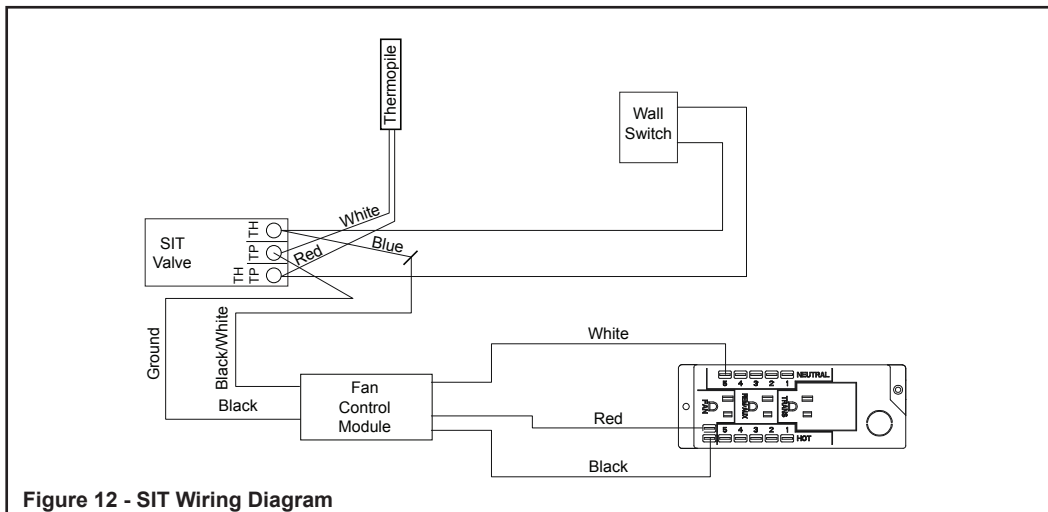

Figure 12 - SIT Wiring Diagram
- Connect the black, white and red wires with 1/4 in. female connectors from fan control module to appliance junction box as shown in Figure 12.